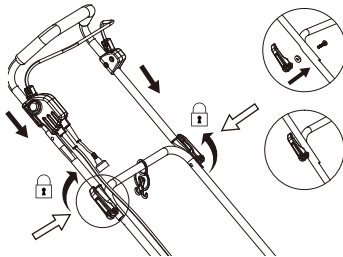

FIG.2
2. Pass the bolts through the mounting holes of handles (Fig. 2).
3. Attach the washer to the bolt and secure the upper handlebar by turning the lever up for tightening (Fig.2).